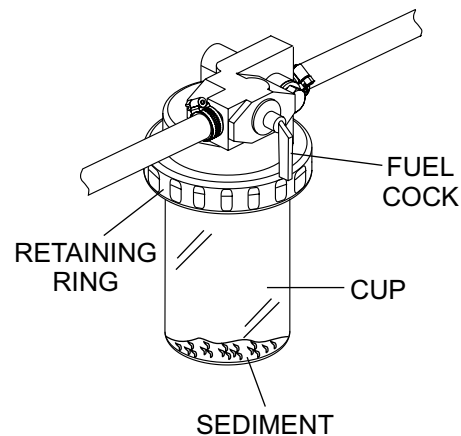

Figure 26. Fuel Water Separator
1. Inspect the fuel filter water separator daily. If the fuel filter/water separator (Figure 26) has collected a significant amount of water and sediment at the bottom of the cup, it should be drained off.